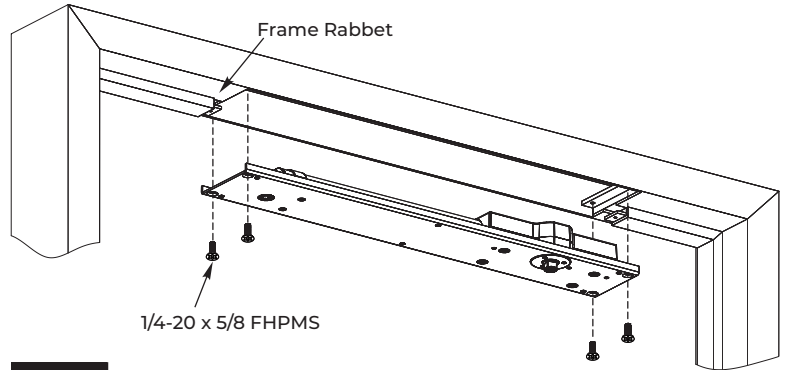

Figure 3 Left Hand Shown
1. Install closer in prepped frame with four (4) 1/4-20 x 5/8" FHPMS mounting screws provided. (Figure 3)